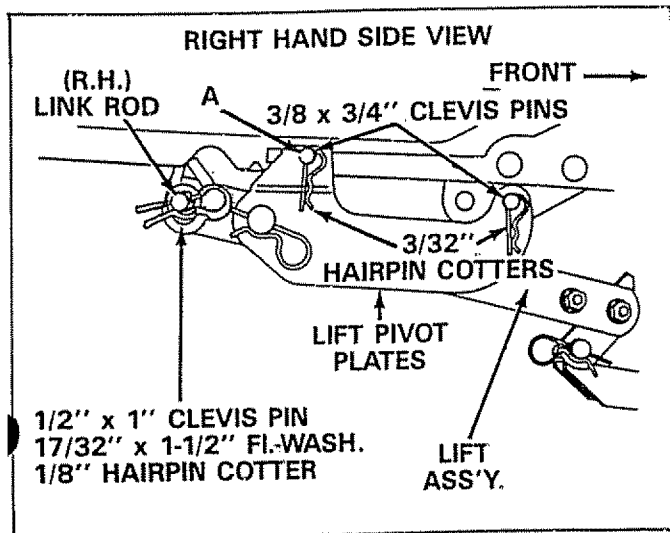

FIGURE 19
- Refer to figure 19 below and;
- Re-assemble one 3/8"-16 x 3/4 carriage bolt and 3/8" hex nut in hole labeled A in figure 19 on each side of tractor frame. Also see figure 4 on page 4.